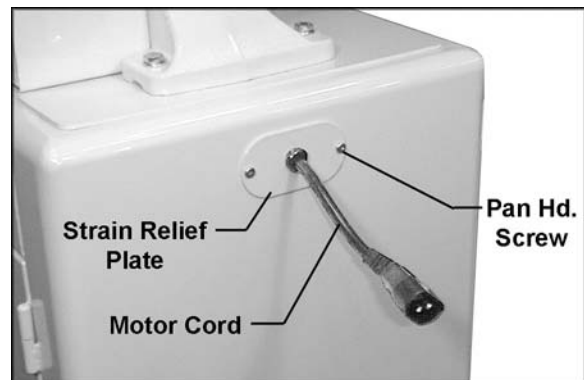

Figure 12
5. Push motor cord and strain relief plate through the opening in the side of the stand (Fig. 12). Fasten the strain relief plate to the stand with two M5 x 12 pan head machine screws (shown in item B, page 8).